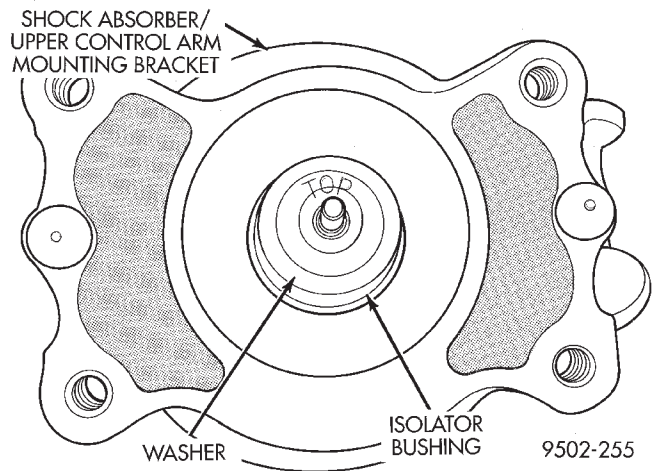

Fig. 72 Washer
(5) Remove the upper bushing retainer washer (Fig. 72) from the shock absorber rod.
(6) Remove the clamp from the bottom of the coil spring and remove the shock absorber, lower spring isolator, jounce bumper, cup, dust boot, and lower